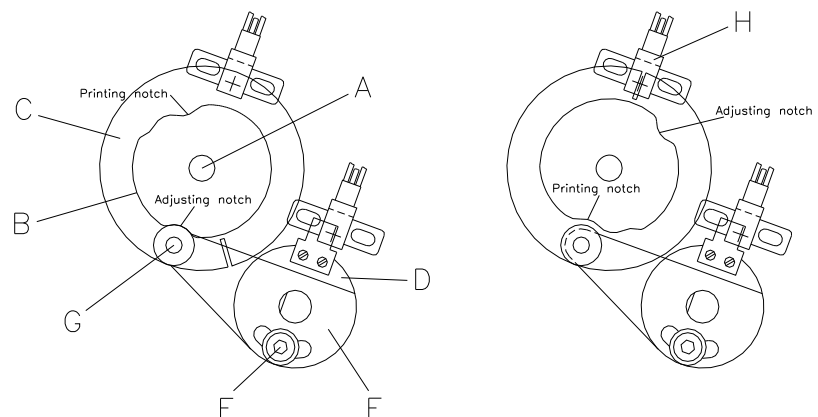

Figure 22
The sketch (see Figure 22) shows from behind the shaft of ribbon save motor (A) with pressure curve (B) and disc (C). The bearing ring (D) with the attached sole plate (E) is underneath.
4. Loosen the hex socket head screw (F) about 1 turn until the sole plate (E) with the attached ball bearing is freely mobile.
5. Turn by hand the motor shaft with pressure curve and disk in the adjusting position (see Figure 22).
6. Press the sole plate (E) with the ball bearing (G) in the adjusting notch of the pressure curve. Take care of not to have too much play. Fasten the hex socket head screw (F).
8. Turn by hand the motor shaft with pressure curve and disc into the adjusting position (see Figure 22).
10. Turn by hand the motor shaft with pressure curve and disk from the lift to the right until a slight resistance can be noticed. If the slot in the disk can be moved slightly to the right and to the left out of the photocell (H), then the pressure curve is adjusted correctly.